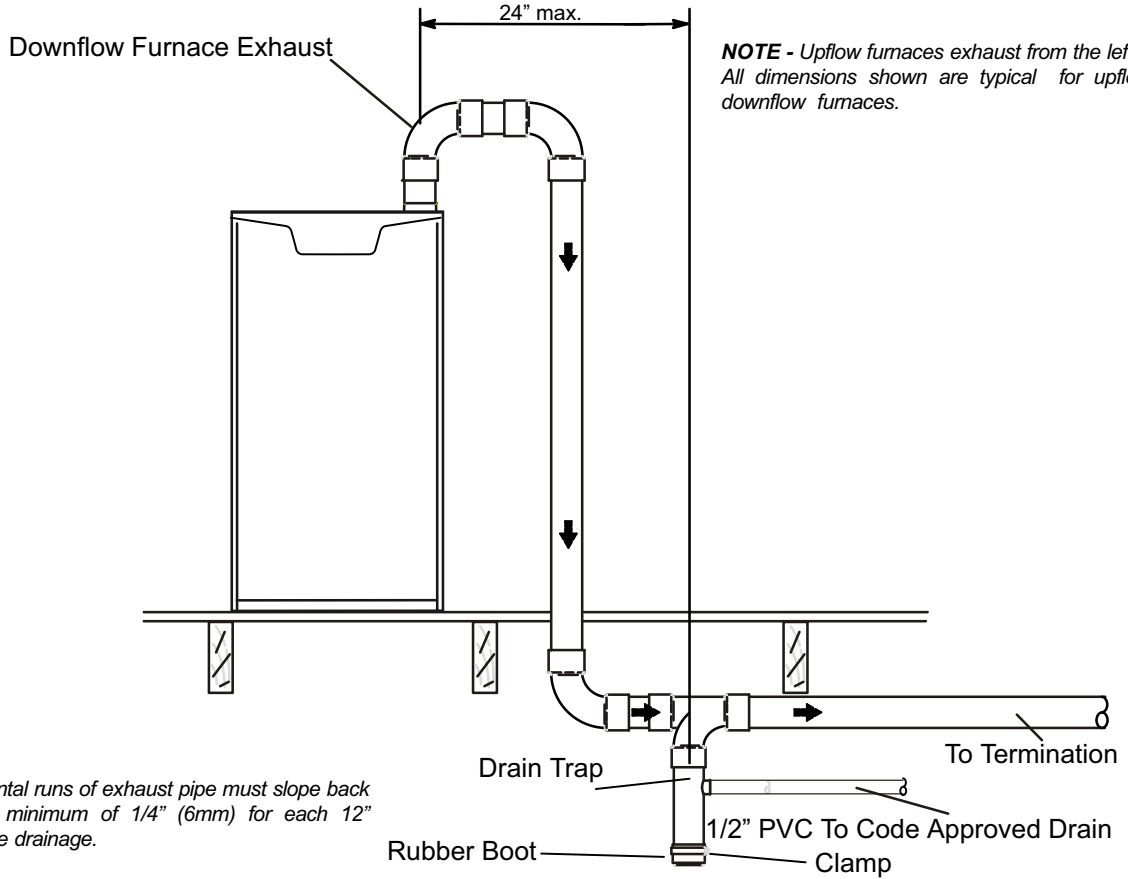

FIGURE 3
- 1 - See figures 3, 4, and 5 for installation options. For crawl space application, determine best location for exhaust pipe to penetrate flooring and route for exhaust to exit crawl space. The kit should be installed as close to the furnace as possible.
- 4 - Route the remaining PVC pipe through as shown in figures 3, 4 and 5. Glue 1/2" PVC to the 1/2" PVC drain stub and route to code approved drain.